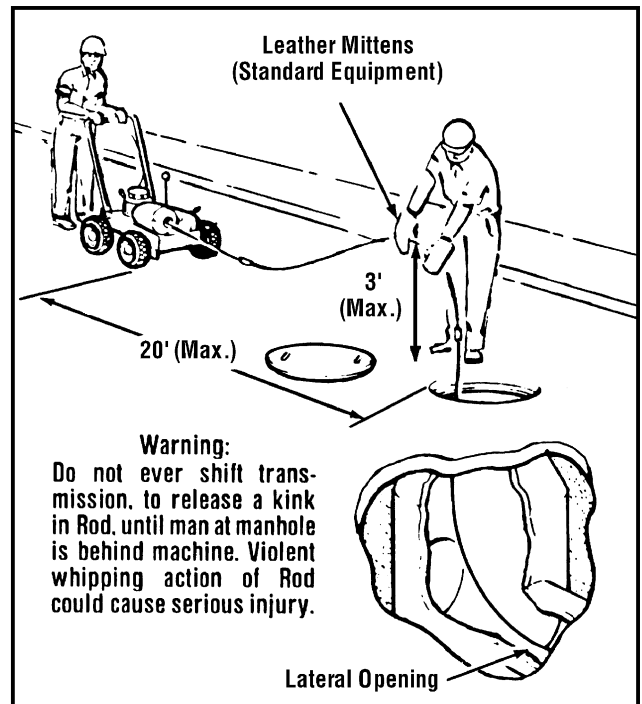

Figure 2 – Operating Rodder
9. As machine is pushed forward the rod handler should push downward on rod with rod guided between thumbs and palms of hands with fingers extended. (Figure 2)